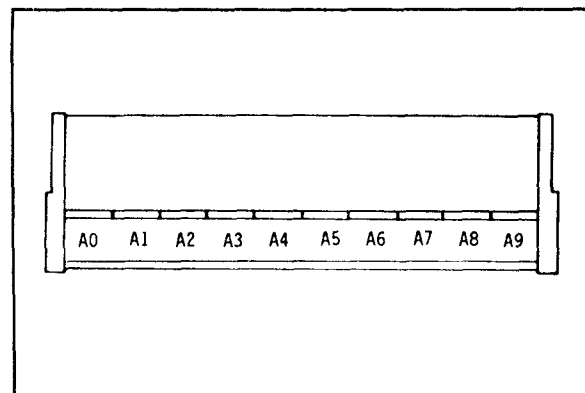

Figure S-5a
- * Refer to Figure S-5a and Table S-5a to find the correct spiral type.